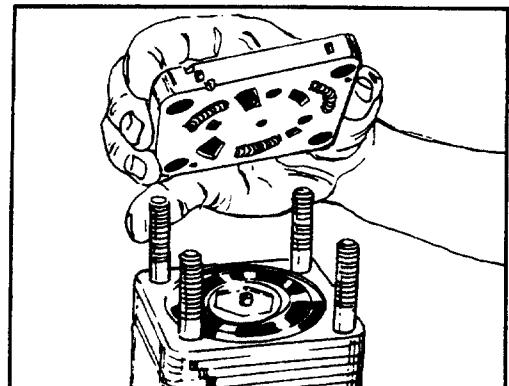

FIGURE 86.
37. Apply a few drops of oil to the valve plate (13). Align the grooves on the side of the port manifold (8) with the grooves on the side of the isolation manifold (15) and assemble the port manifold with the springs toward the valve plate (13). Be careful not to pinch a spring during installation. The two alignment pins (11), in the valve plate, will engage the holes in the port manifold. The pin on the hex drive assembly (10) must engage the center hole in the port manifold. See figure 86.